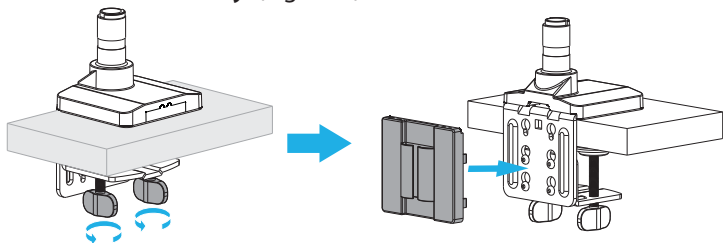

Figure 7
6. Slide the **Base Mount Assembly** onto the **Desk**. Tighten by hand the **Hand Knobs** (x 2) at the bottom of the **Base Mount Assembly**. Attach the **Tool Holder** onto the **Base Mount Assembly**. (Figure 7)